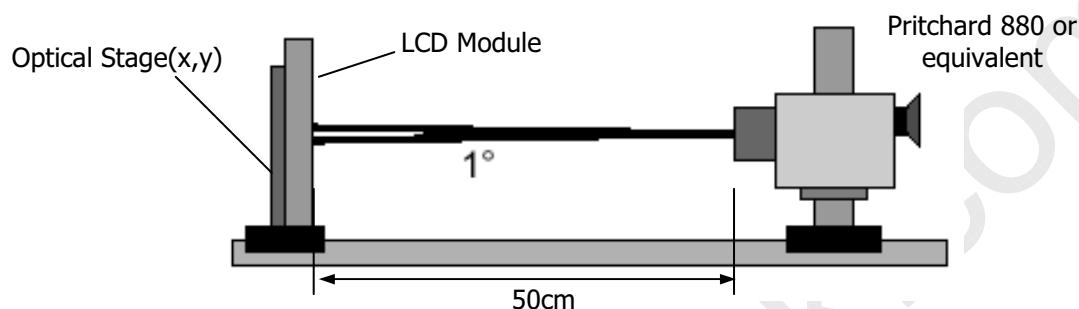

FIG. 6 Optical Characteristic Measurement Equipment and Method
FIG. 6 presents additional information concerning the measurement equipment and method.
2. **Surface luminance** is luminance value at No.1 point across the LCD surface 50cm from the surface with all pixels displaying white. For more information see FIG 6.